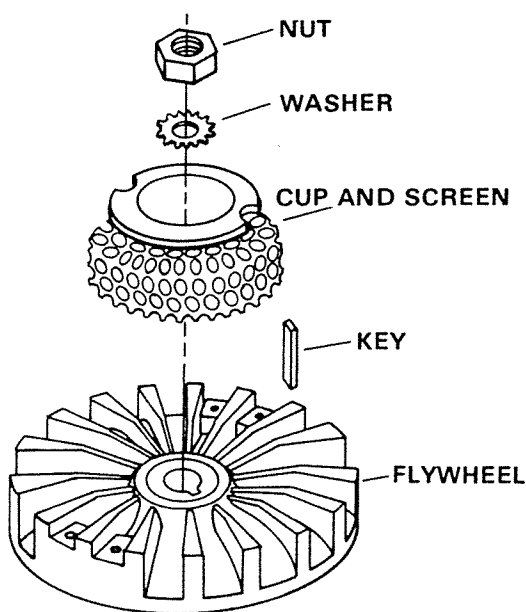

Figure 9. Installing Flywheel.
2. Install flywheel (slot aligned with key), starter cup and screen, lockwasher and nut. Figure 9.